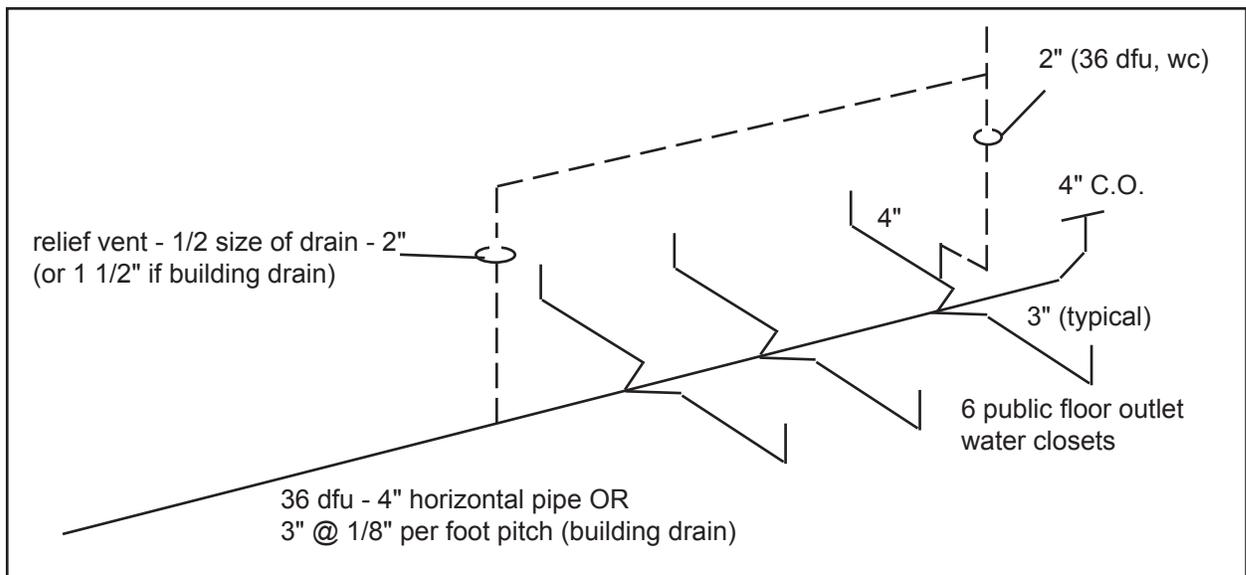

Figure 55. Circuit vent
7. A relief vent must connect to the drain line when four or more fixtures are being circuit vented. This relief vent is connected to the horizontal drain downstream of the most downstream fixture drain that is vented by the circuit vent and upstream of all other drain connections.(Figure 55).